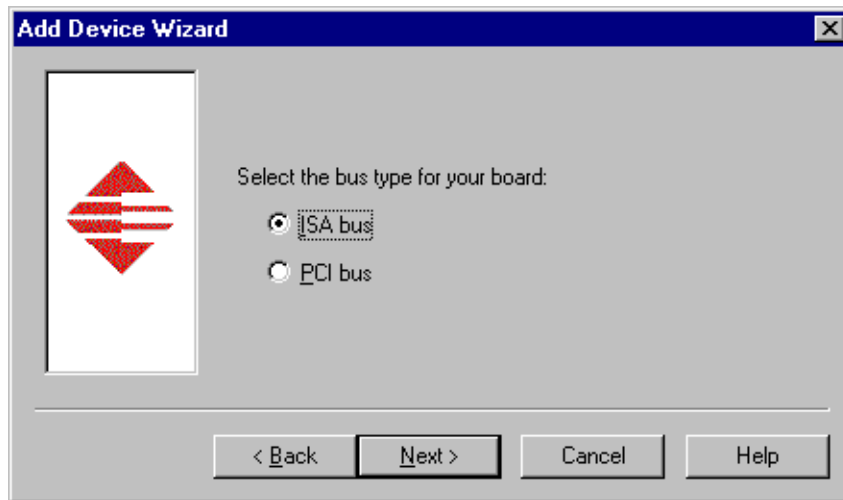

Figure 3. Select the ISA bus type.
8. The Add Device Wizard starts. Click **Next** to continue, then select ISA bus as the bus type (see Figure 3) and click **Next** again.